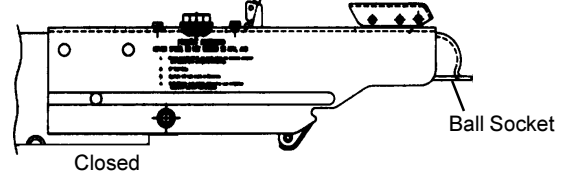

Figure R6: Surge Brake Actuator & Coupling Assembly
For boat models with the Surge Brake Actuator and Coupling Assembly shown in Figure R6, lift the release handle to unlock the coupler. Push down on the release handle/locking lever to lock the trailer to the ball hitch. The locking pin, provided with the trailer, or a padlock **must be inserted** in the locking lever hole. This ensures the coupler's locking lever remains in the locked position during the towing of the trailer. Refer to Section R-3 Operation for additional information on couplers and hitching to the tow vehicle.
2. Lift up on release handle fully (approximately 30° for a trailer with brake actuator and coupler assembly) to allow the ball latch to rotate open. The handle will remain up to indicate that it is not yet attached to the ball. See Figure R6.